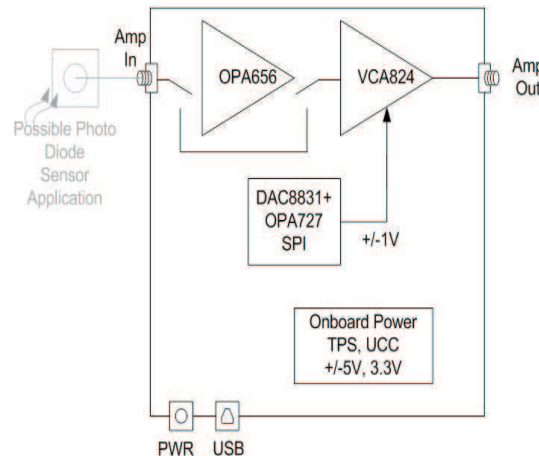

Figure 3. TSW7001EVM Block Diagram
Figure 3 shows the functional blocks on the TSW7001 board. The Texas Instruments integrated circuits (IC) are listed on board for reference.